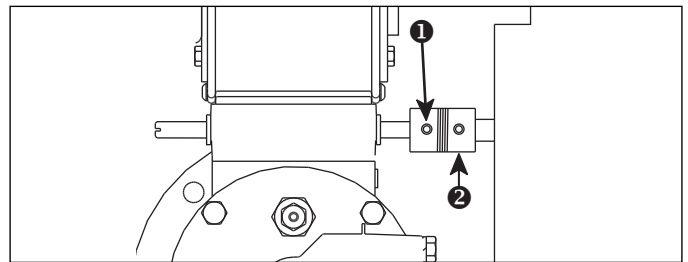

Figure 4.3 Actuator with Flexible Coupling
- a. For air control actuators that have a coupling with set screws, as shown in Figure 4.3, loosen the set screw ❶ on the burner side of the coupling ❷.
- d. For air control actuators that have a coupling with set screws, as shown in Figure 4.3, hold the butterfly valve firmly in place and tighten the set screw ❷.